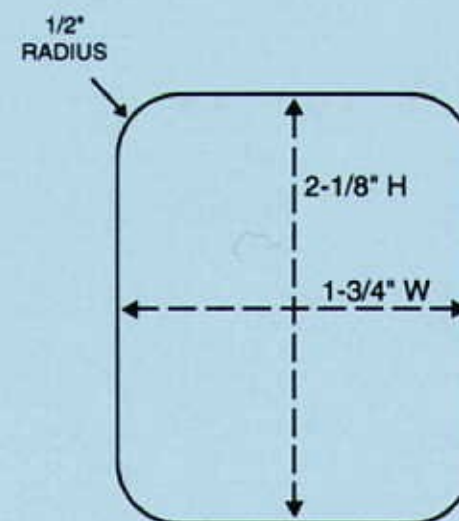

FIGURE 2
3. An alternate way to mount your control is to cut a rectangular hole with rounded (1/2" radius) corners 1-3/4" W. x 2-1/8" H. (Figure 2). This is accomplished by drilling a 3/8" hole in the center of the area to be used. This allows access for a sabre saw blade. Note that the switch attaches in the corners, so be careful not to cut away mounting area.